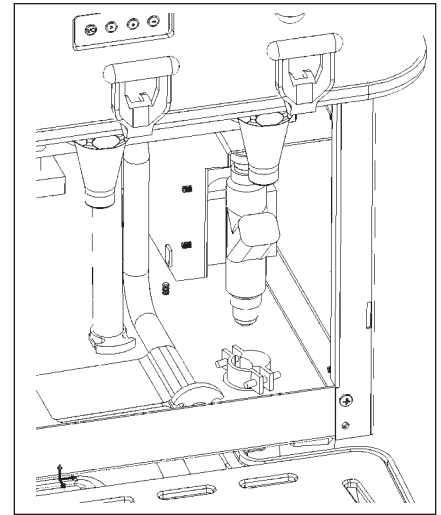

Figure 1
2. Remove front splash panel for access to water hook-up. (see Figure 1)